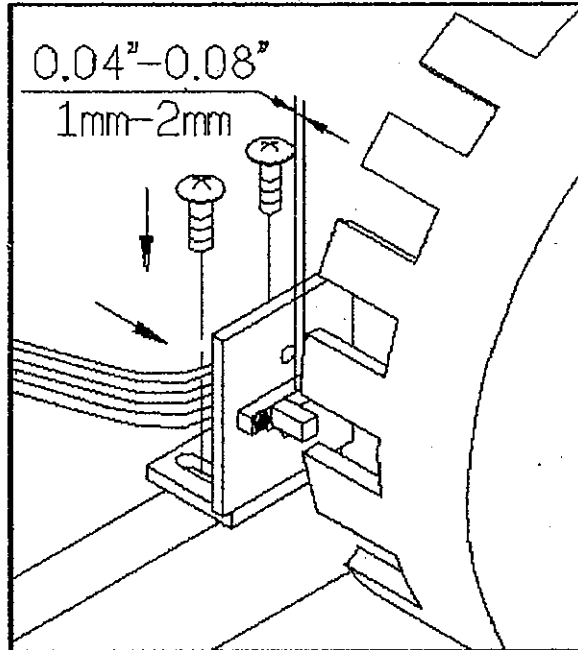

Fig. 18
5. Replace the optical switch with two screws. Making sure the space between the optical switch and tachometer wheel is $0.04'' - 0.08''$ (1 mm - 2 mm), then tighten the two screws (see Fig. 18).